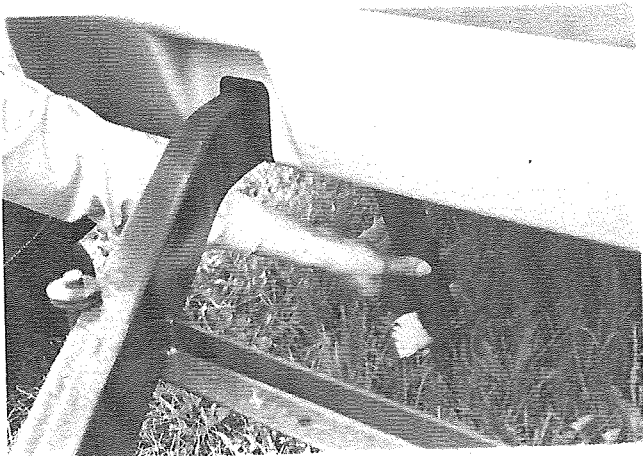

FIG. 11 - Stabilizer Jack Release
13. There are four stabilizer jacks on all trailers with the exception of the Columbia and Jamestown models. One jack is located in each corner of the trailer. The Columbia and Jamestown trailers have two stabilizer jacks, one located in each rear corner. To release the jacks from the locked travel position, reach under the corner and firmly grasp the stabilizer jack, push it toward the center of the trailer (approximately 1/2"), and pull down until the stabilizer jack locks into place in the lowered position. (See Figure 11.)